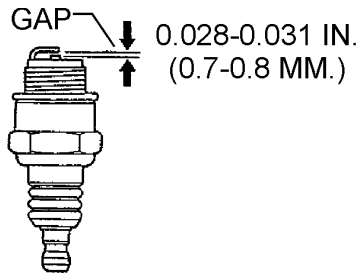

Figure 17. Spark Plug Gap
3. Remove and clean the spark plug (See Figure 17), then adjust the spark gap to 0.028~0.031 inch (0.6~0.7 mm). This unit has electronic ignition, which requires no adjustments.